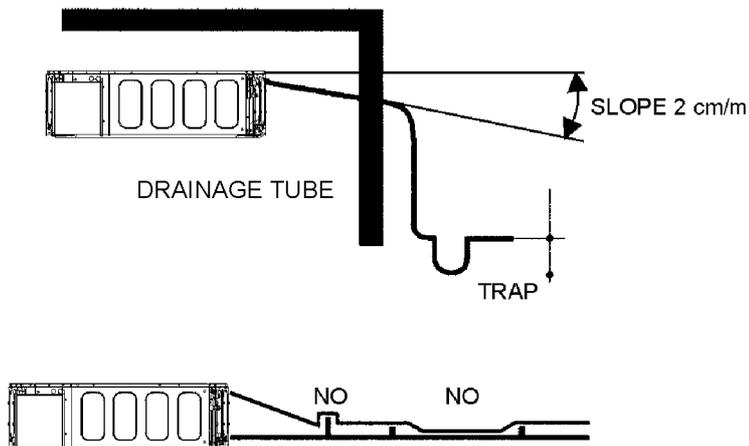

Fig. 12. Drainage tube connection
- B. To enable proper drainage of the condensation water, the passage of the drainage must be planned in advance with a down slope of at least 1%, without creating any bottleneck and without upwards bends (see Fig. 12). Take care to integrate a siphon at a minimum of 50 mm height, in order to prevent penetration of unpleasant smells into the room.